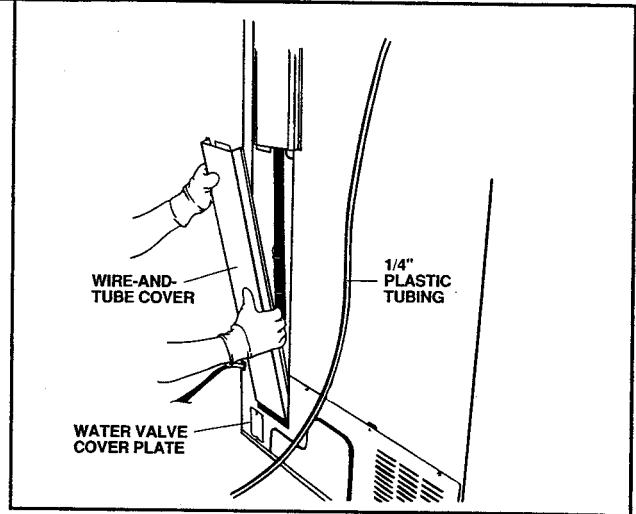

Figure 20
- a. Remove and retain four screws and the lower half of the vertical wire-and-tube cover from the exterior rear wall of the refrigerator. See Figure 20.
4. The plugs for the electrical connections to the water valve coil and terminal must be tightly seated into all terminals. Remove the lower half of the vertical rear wire-and-tube cover from the refrigerator to check the connections. See Figure 20. *Replace the lower half of the vertical rear wire-and-tube cover before returning the refrigerator to normal use. The refrigerator will not operate properly with any cover removed.*